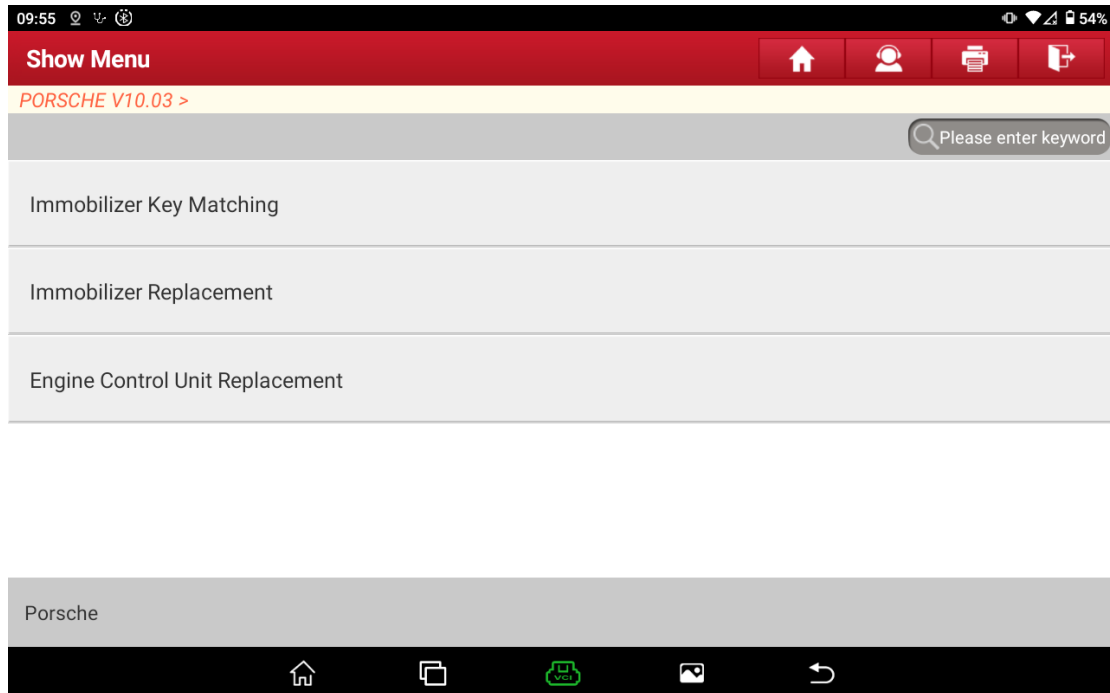

Figure 1 Main function menus
1. Connect the X431 Pro and other tablet devices to the network, and access the Porsche immobilizer software. The main function menus are displayed, as shown in Figure 1.